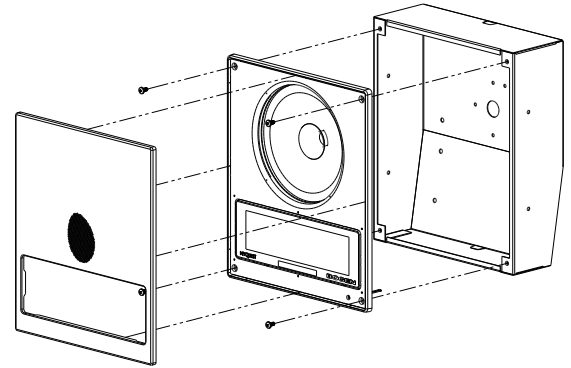

Figure 9: Attaching grille and baffle to enclosure.
7. Reattach the baffle to the enclosure with the four screws provided, then press fit the grille into the baffle as shown in **Figure 9**.